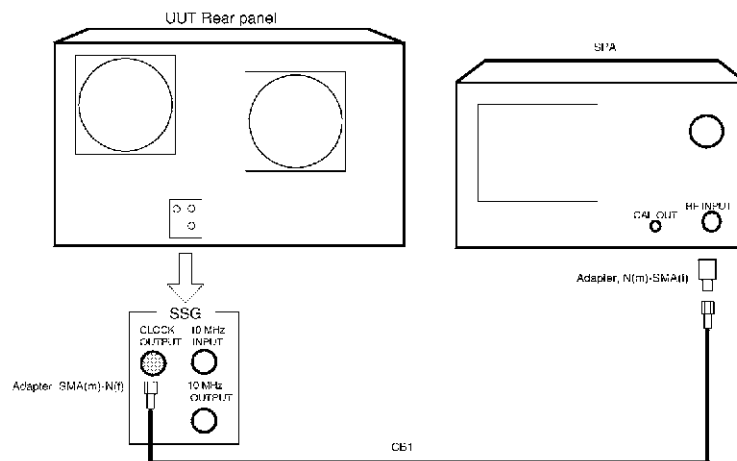

Figure 1-16 Setup of SSG Output Level Test
1. Connect equipment as shown in Figure 1-16.